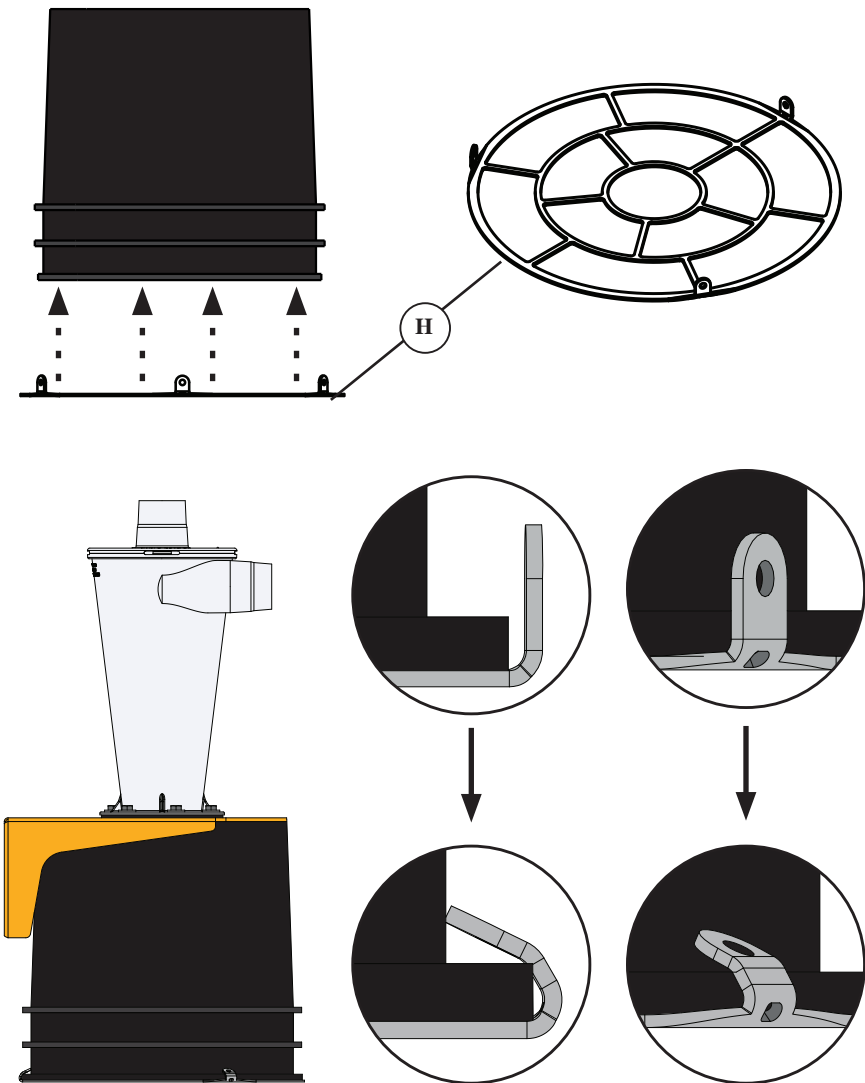

FIG. 12
Attach the Grid (H) to the bottom of the Bin (G) and secure it in place by bending the three tabs inward towards the Bin [FIG. 12].